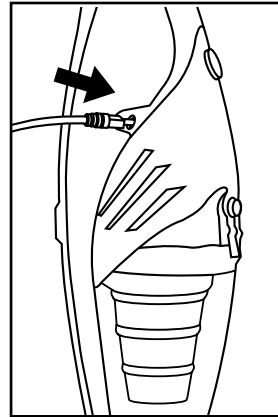

Fig. 3
1. Connect charger into the charging port located on the side of the vacuum (in the hand vac). (Fig. 3) Charge unit with hand vac stored on-board.